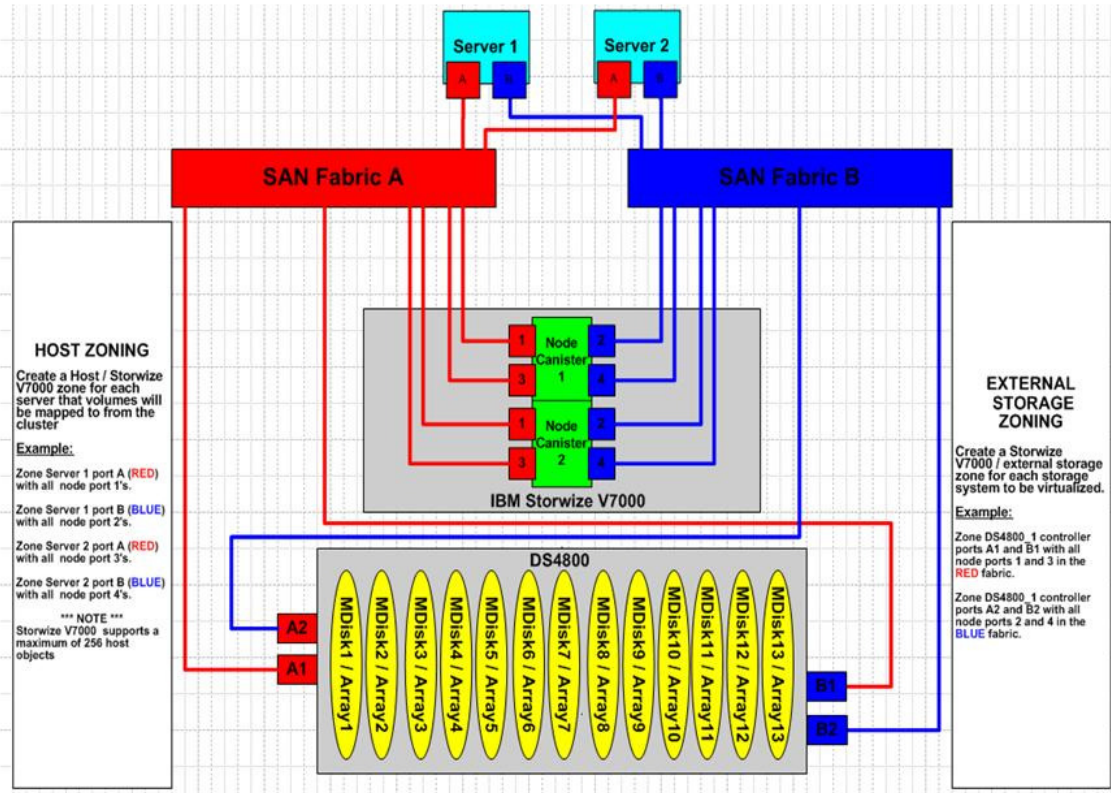

Figure 8: SAN configuration example
- Have physical separation of dual fabrics. Refer to the fabric and zoning example in Figure 8.